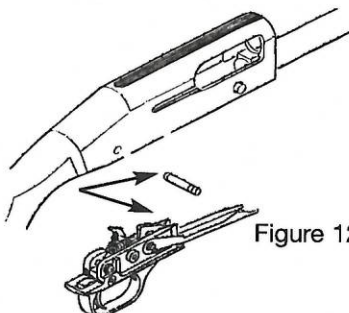

Figure 12
1. Push out the trigger housing retaining pin using a blunt object no larger than 1/8" diameter (See Figure 12). Remove the pin by tapping from the left side, removing it from the right side.